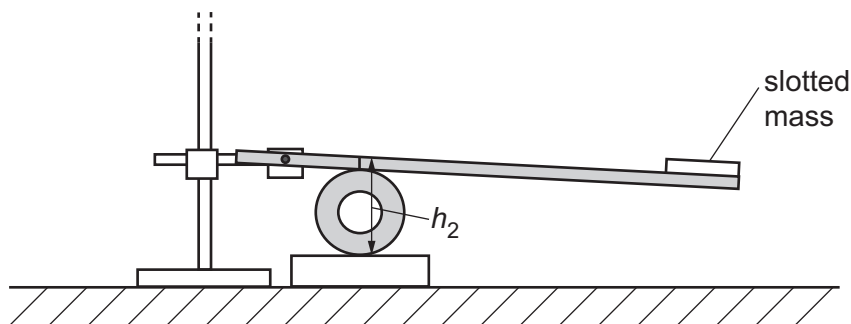

Fig. 2.4
- Place the slotted mass at the end of the rod, as shown in Fig. 2.4.
- The vertical distance, next to the ring, of the top of the rod above the block is now  $h_2$ , as shown in Fig. 2.4.